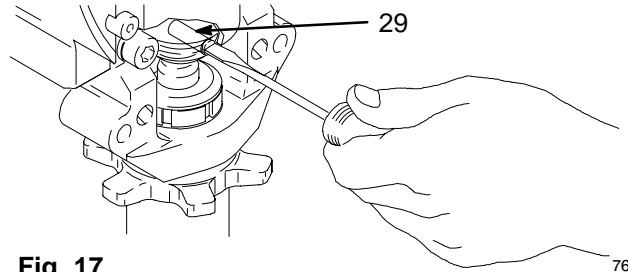

Fig. 17 7675B
5. Fig. 17. Use screwdriver: push retaining spring up and push out pin (29).
2. Fig. 17. Push pin (29) into hole. And push retaining spring into groove all the way around connecting rod.